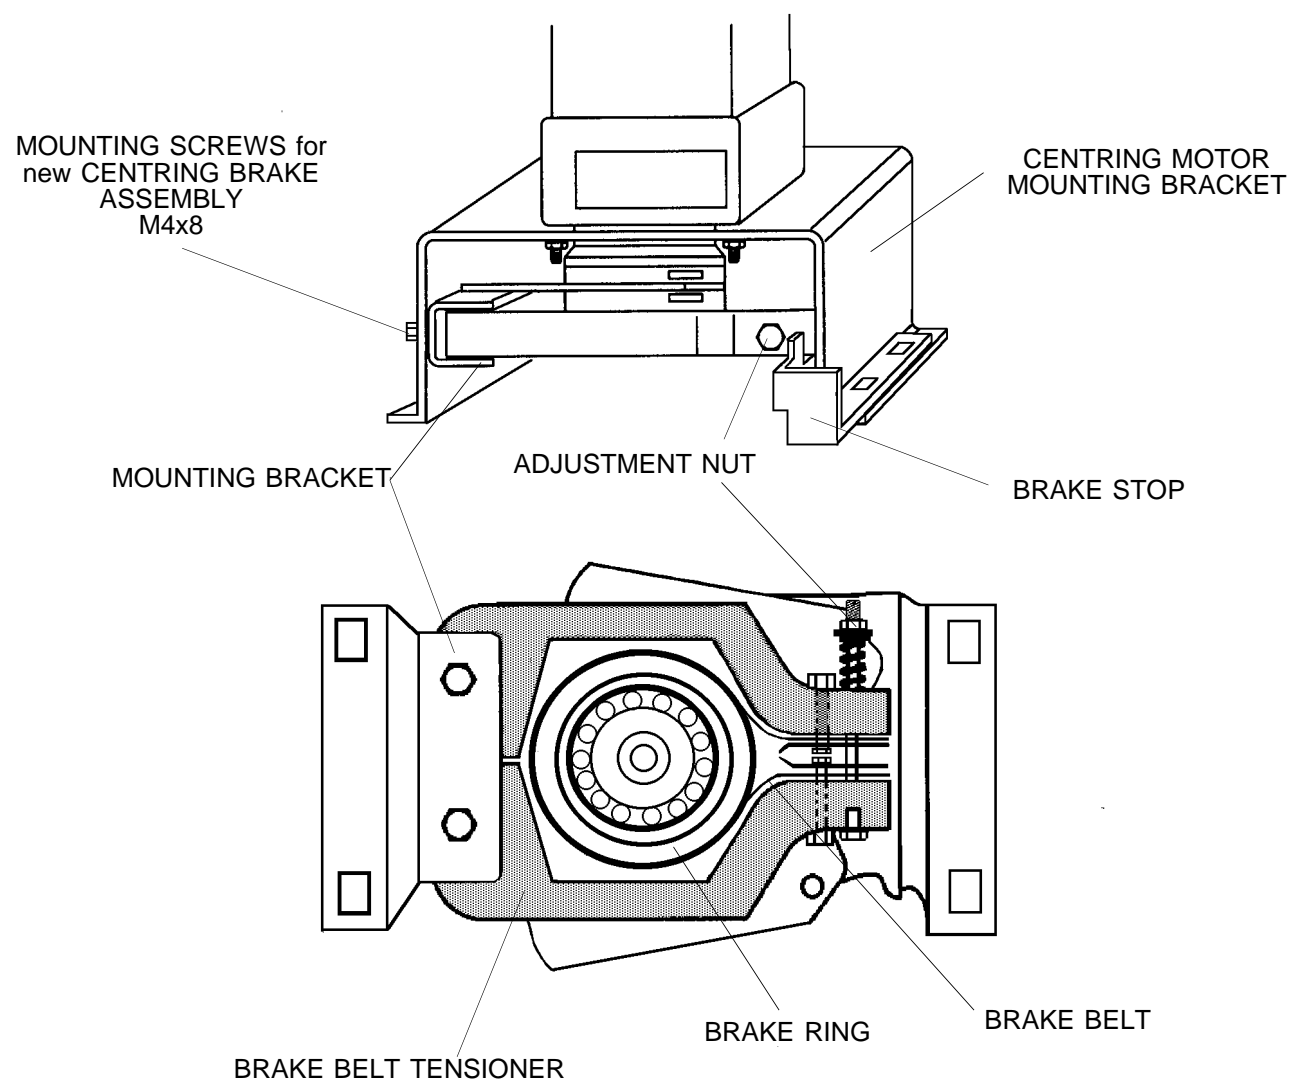

figure 7
5. Slide the new CENTRING BRAKE ASSEMBLY over the BRAKE RING and fasten it with 2 SCREWS and WASHERS to the CENTRING MOTOR MOUNTING BRACKET. See figure 7 on the next page.
8. Mount the BRAKE STOP to the right-hand side of the CENTRING MOTOR ASSEMBLY. Use the 2 SCREWS PN 4283291 and the 2 WASHERS PN 4480032 from the modification kit. See figure 7 on the next page. Do not tighten the 2 SCREWS.
9. Tighten the ADJUSTMENT NUT a bit. See figure 7 on the next page.